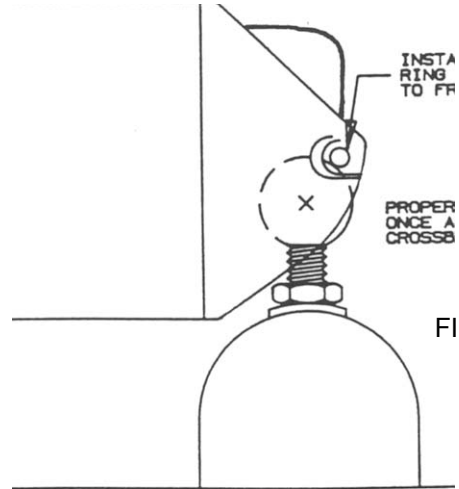

FIGURE 24
14.3 Place the mast base over the mast step ball located on the front crossbar and insert the mast step pin through the entire assembly. The pin should be visible on the opposite side of the mast base. Secure the pin with clevis ring. (FIGURE 24)